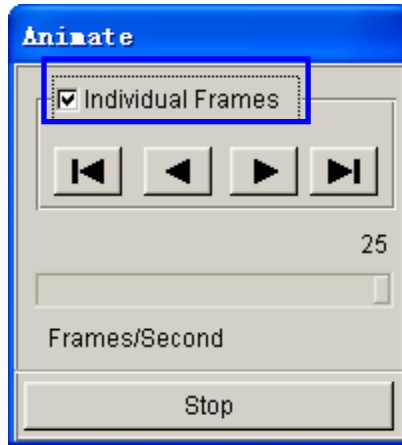

Figure 5.76 Animate control dialog box
- You can select the **INDIVIDUAL FRAMES** option from the ANIMATE dialog box illustrated in Figure 5.76 to display incremental tool movement.